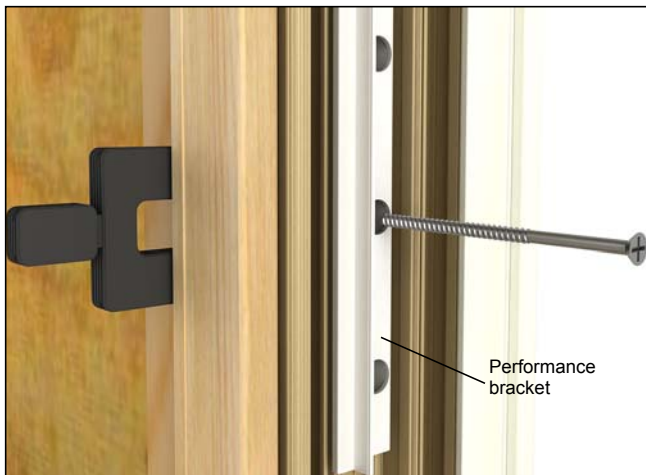

Figure 7
6. Operator units that have performance brackets require a screw through center of each lower jamb bracket(s). See figure 7.